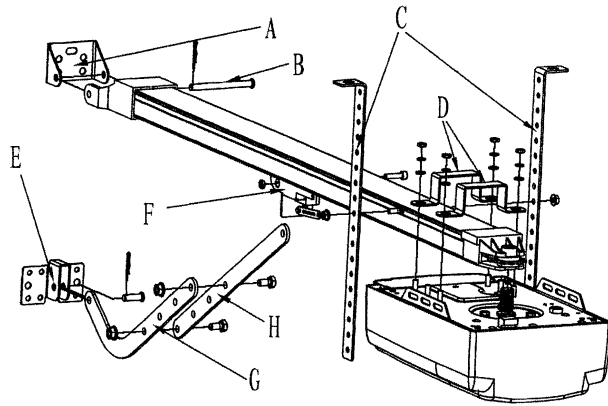
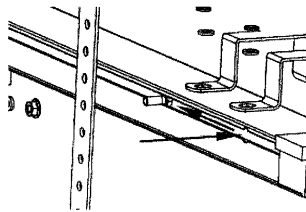
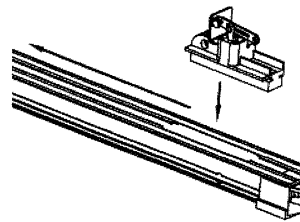

Fig.6
Fig.7
Fig.8
1. Fixing the wall bracket(A) to the wall 2cm-15cm over the shaft or intermediate bracket , and should be center horizontally. (depending on the actual installation space).
2. Fixing the steel track to the wall bracket using axis pin $\Phi 8 \times 90$ (B) and cotter pin. (Fig. 6)
4. Fix two M6 outer hexagon bolts into the hole on both edge of the track and slide along the slot to suitable position (make sure the two bolts are aligned). Then fix the hanging bracket (C) to the edge of the track (matching with the two bolts) as in Fig.7 using M6 nuts (before fastening, cut off any excess hanging bracket).
6. Fix the door bracket (E) to the top edge of the door (should be in the middle and under the wall bracket)
7. Connect the bent arm (G) to the door bracket using a $\Phi 8 \times 25$ axle pin and cotter pin as shown in Fig. 6.
8. Install the shuttle(F) to the track (be sure it faces the right direction as shown in Fig.8), tie the clutch cord. Connect the straight arm (H) to the clutch using a $\Phi 8 \times 25$ axle pin as shown in Fig.6.